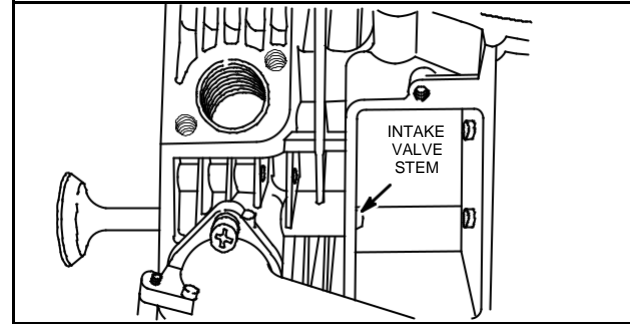

Fig. 18
1. Coat valve stem with Valve Guide Lubricant #93963 and install in intake valve guide until stem just starts to enter valve tappet chamber, Fig. 18.